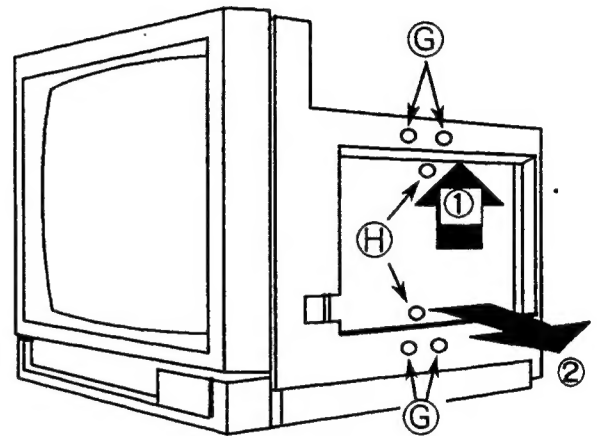

Fig. 4
- (1) Remove the wire clamp fixing the transformer on the Power PCB and PCB holder.
- (2) Remove the four screws ③ in Fig. 4 and dismount the PCB holder.
- (3) Remove the two screws ④.
- (4) After raising the Power PCB once, pull the lower part of the PCB outward and dismount the PCB.
- (5) Dismount the connectors, etc. as required.